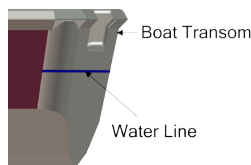

Figure 12
2. Mark two 3/4" holes on the transom above the water line for bushings (K) spaced 1-1/4" apart. Then, drill a pilot hole in the middle of each marked hole with a 5/16" drill bit. Next, drill pilot holes out with a 3/4" drill bit, route hydraulic hoses to HPU through transom holes and install thru-hull bushings (K). **FIG. 12 & 13**